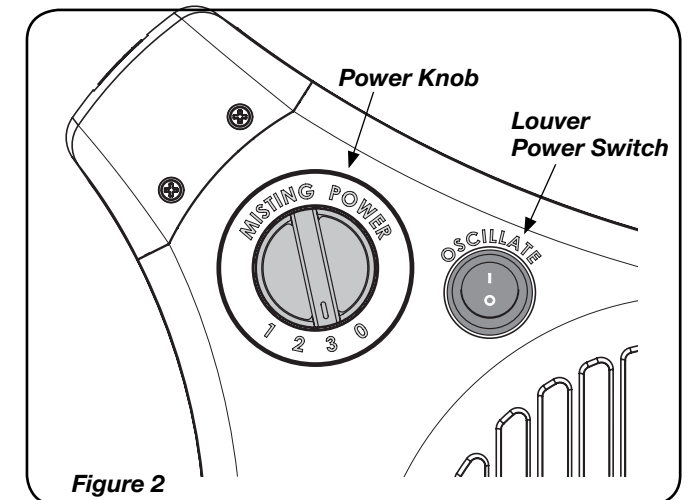

Figure 2
1. Turn the Fan on by selecting the desired speed with the Power Knob on the side of the Fan. 0-Off, 3-High, 2-Medium, 1-Low (Figure 2)